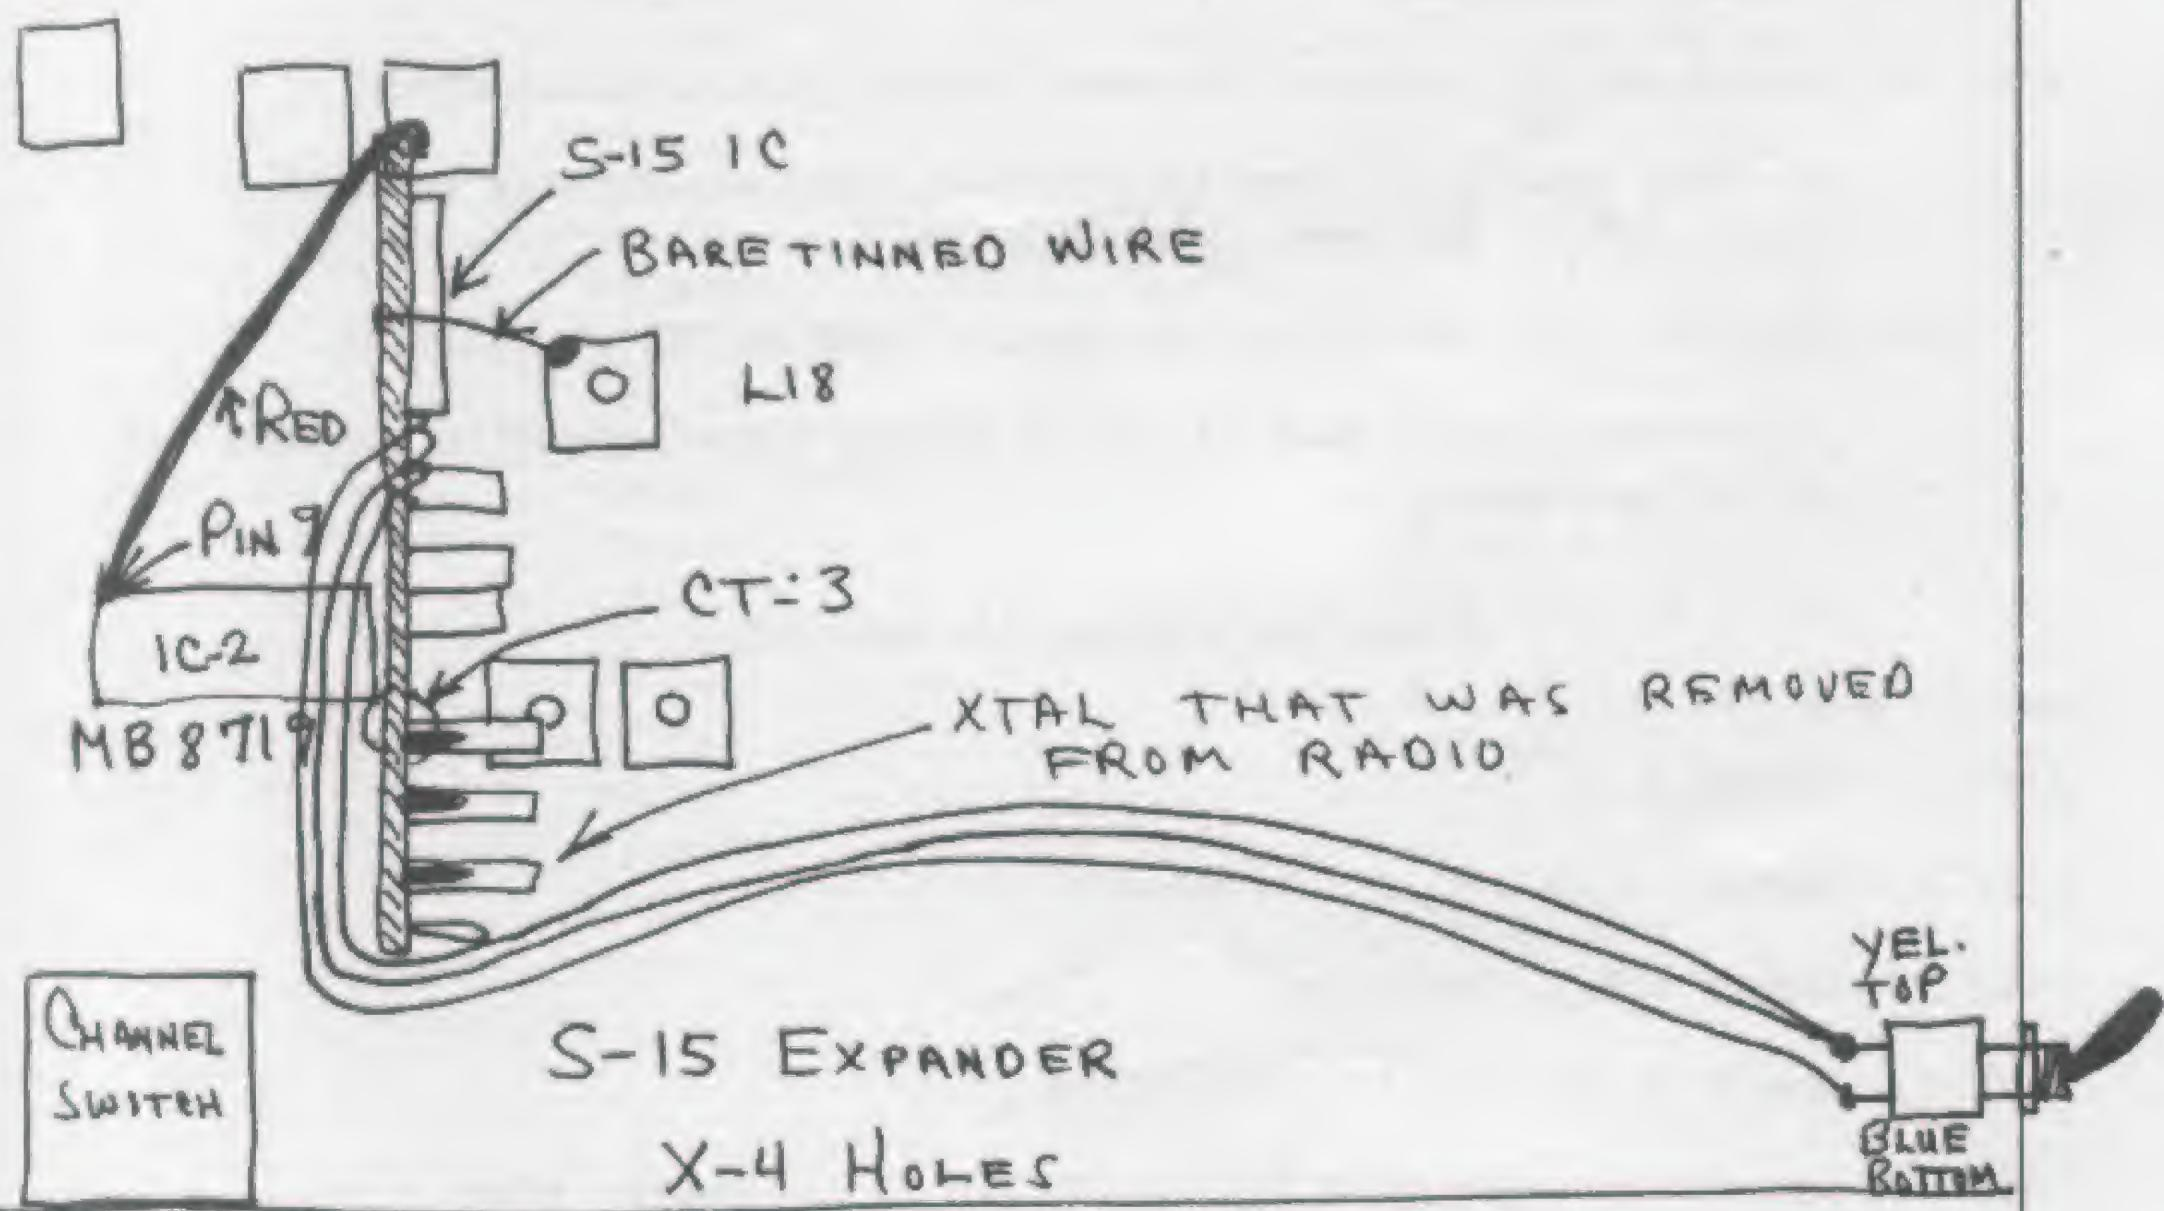

FIGURE 1
STEP 2. Locate PLL and remove cover in Fig. 1.
STEP 3. Locate D858 in Fig. 1 and cut pin 19 close to PC Baord as indicated in Fig. 2.
STEP 4. Solder a 1,000 Ohm  $\frac{1}{4}$  watt resistor from pin 19 to supply line in Fig. 1.